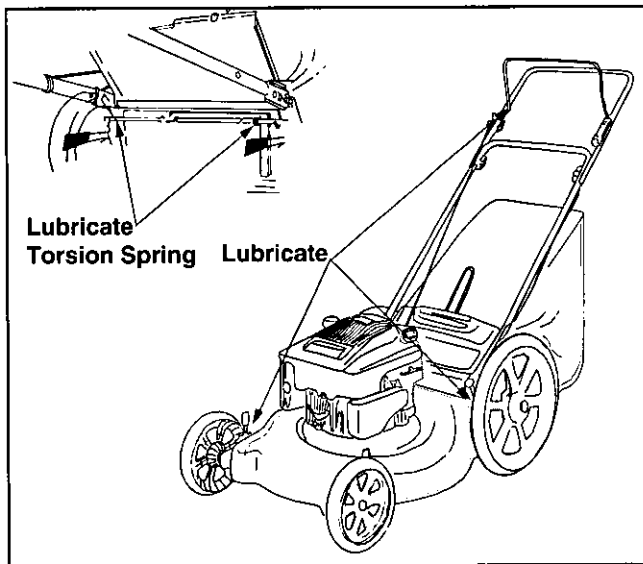

Figure 15
**Blade Control:** Lubricate the pivot points on the blade control handle at least once a season with light oil. The blade control must operate freely in both directions. See Figure 15.
**Wheels:** Lubricate the wheels at least once a season with light oil (or motor oil). If the wheels are removed for any reason, lubricate the surface of the axle bolt and inner surface of the wheel with light oil. See Figure 15.
**Chute Deflector:** Lubricate the torsion springs and pivot points on chute deflector using light oil. This will insure the deflector, which is a safety device, can always work properly. See Figure 15.